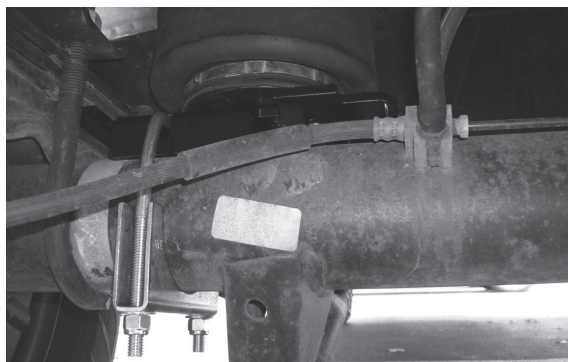

fig. 18
2. Position the lower bracket so that the outboard edge is between the leaf spring U-bolts (fig 15). Insert the U-bolt (F) provided in the outboard slot of the lower bracket (fig. 18).
3. Secure the lower bracket to the axle using the saddle clamps (G), flat washers (K) and 3/8" nuts (J). See fig. 18.
4. Torque the nuts to 16 lb.-ft. (fig. 18). Trim excess bolt off if desired.